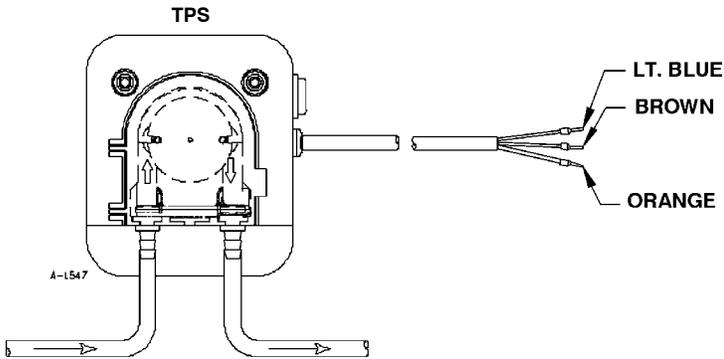

FIGURE 3
**TPS Series** (compressor or cooling signal) - Connect the brown wire to the main phase (line), the blue wire to the neutral phase (common). The pump must not be connected to a switched line. Electricity should always be provided on this line. Connect the orange wire to the compressor or cooling signal (Figure 3). When the compressor engages, a 230V supply voltage will be sent to start the pump. When the compressor stops operating, the pump will not stop. The pump is programmed to continue operating for another 5 minutes to collect any residual condensate before stopping.